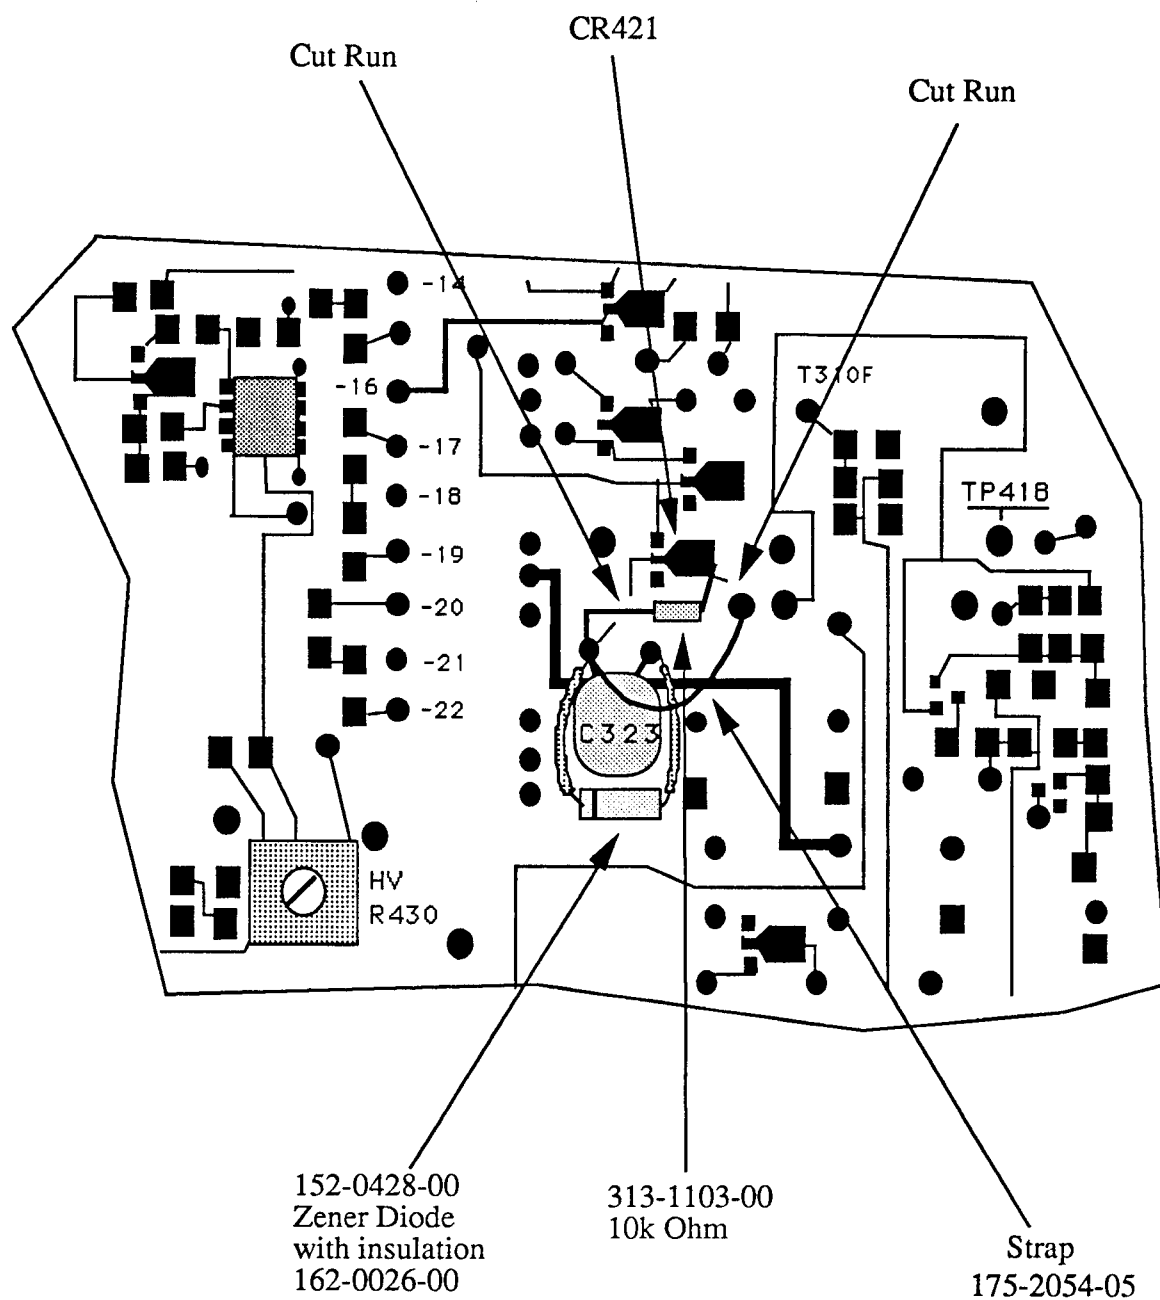

Figure 1.
- (p) Add a 10k $\Omega$  resistor, 313-1103-00 in series with the common cathode of CR421. This will require cutting the two runs connected to the cathodes and installing a strap using the 175-2054-05 wire. See Figure 1.
- (q) Install a 120V, zener diode, 152-0428-00 across C323. See Figure 1. Use the clear insulation, 162-0026-00 on the diode leads to prevent shorts.